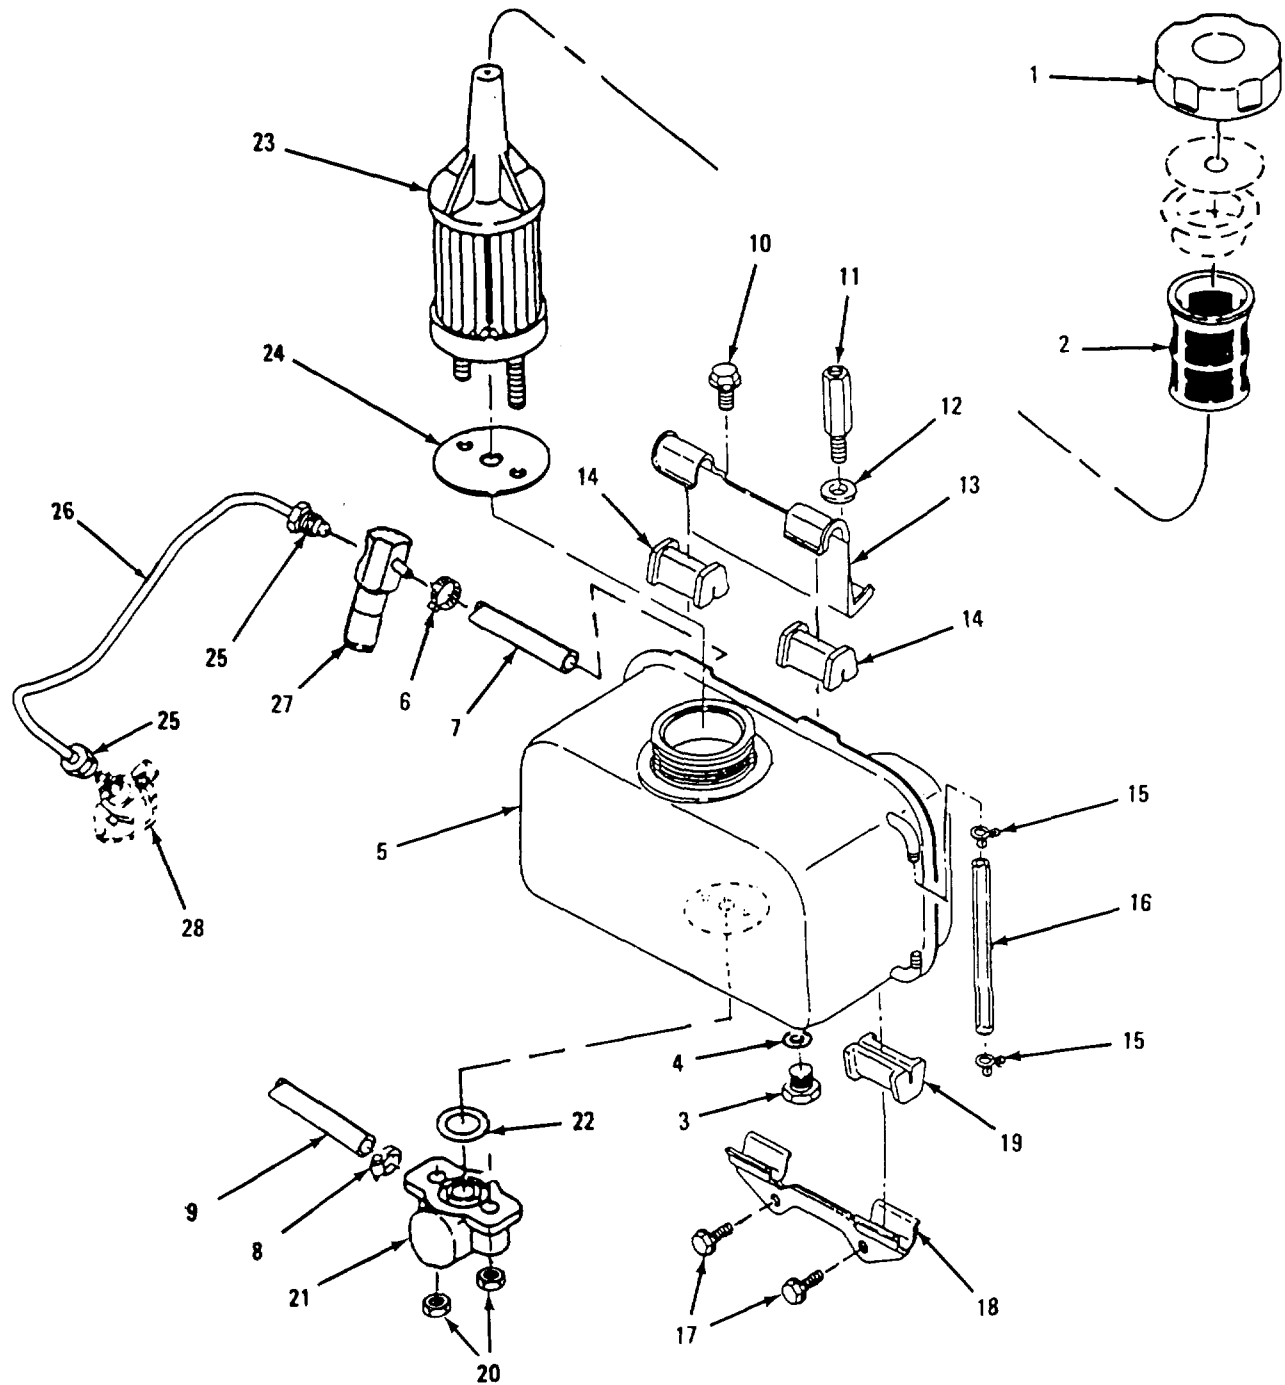

Figure 4-19. Fuel Tank Assembly Repair and Replacement
a. Removal. (Refer to Figure 4-19)
- (1) Remove fuel cap (1) and strainer (2).
- (2) Remove drain plug (3) from bottom right corner of the fuel tank (5) and drain out all fuel into a clean container. Dispose of fuel per FM 10-69.
- (3) Release two hose clamps (6) on overflow hose (7).
- (4) Loosen clamp (8) and remove fuel line hose (9) from fuel tank (5).
- (5) Remove hex head screw (10), lifting bolt (11), and washer (12) securing the upper part of the fuel tank stay bracket (13) and remove stay bracket and two dampers (14).
- (6) Remove fuel tank (5).
- (7) Remove two clamps (15) and pipe gauge (16).
- (8) Remove two bolts (17), stay (18), and two dampers (19).
- (9) Remove two nuts (20), securing the fuel cock (21) to studs on the fuel bank (5) and remove fuel cock.
- (10) Remove O-ring (22) from fuel cock (21). Discard O-ring.